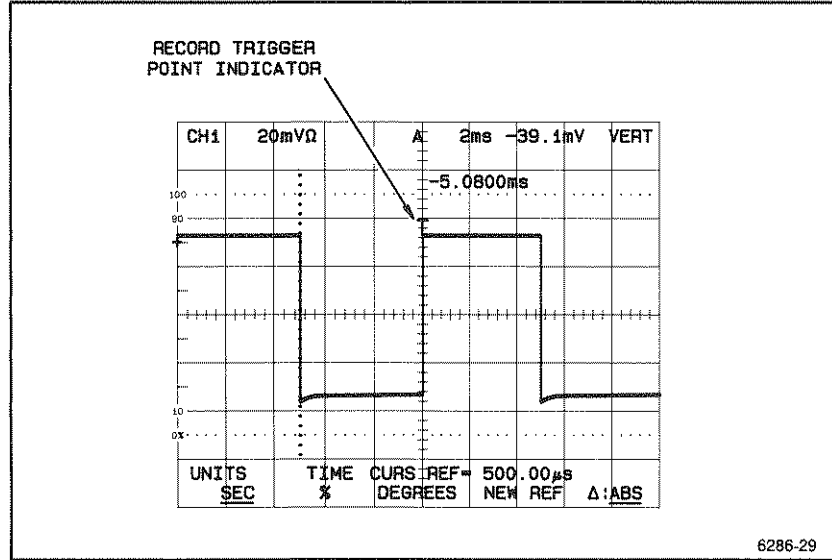

Figure 3-13. Time measurement of an event relative to the Record Trigger.
2. Position the display to view both the Record Trigger (T) and the point on the waveform that you want to measure. Adjust the SEC/DIV as required.
4. Read the time interval between the cursor-aligned point and the Record Trigger point directly from the cursor readout. (See Figure 3-13.)